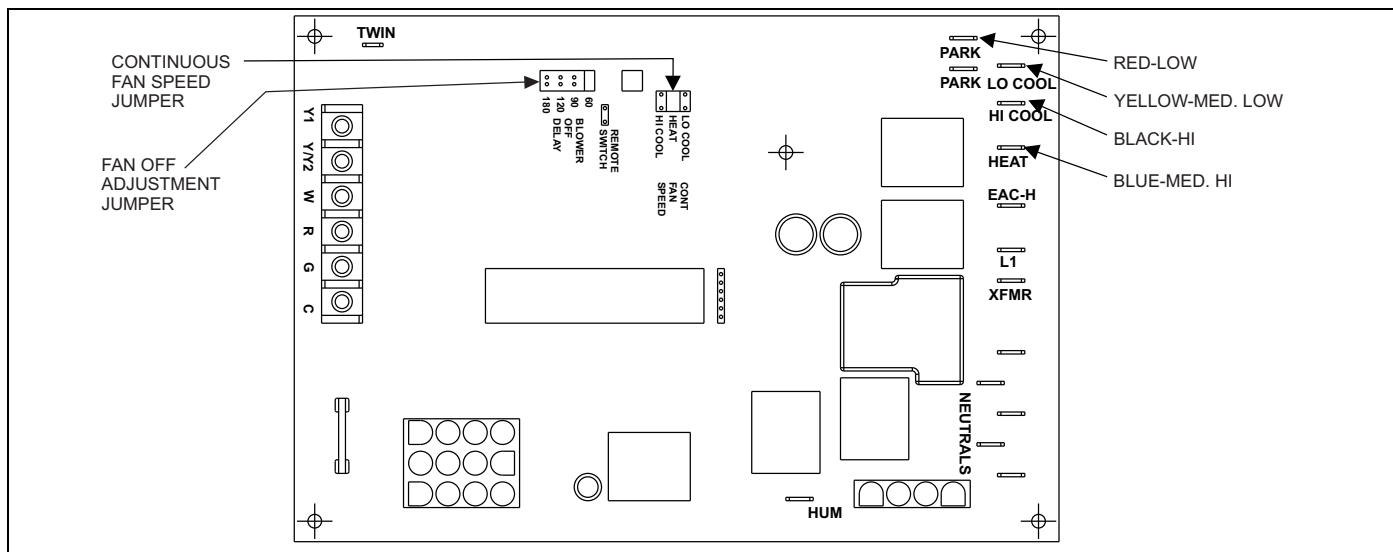
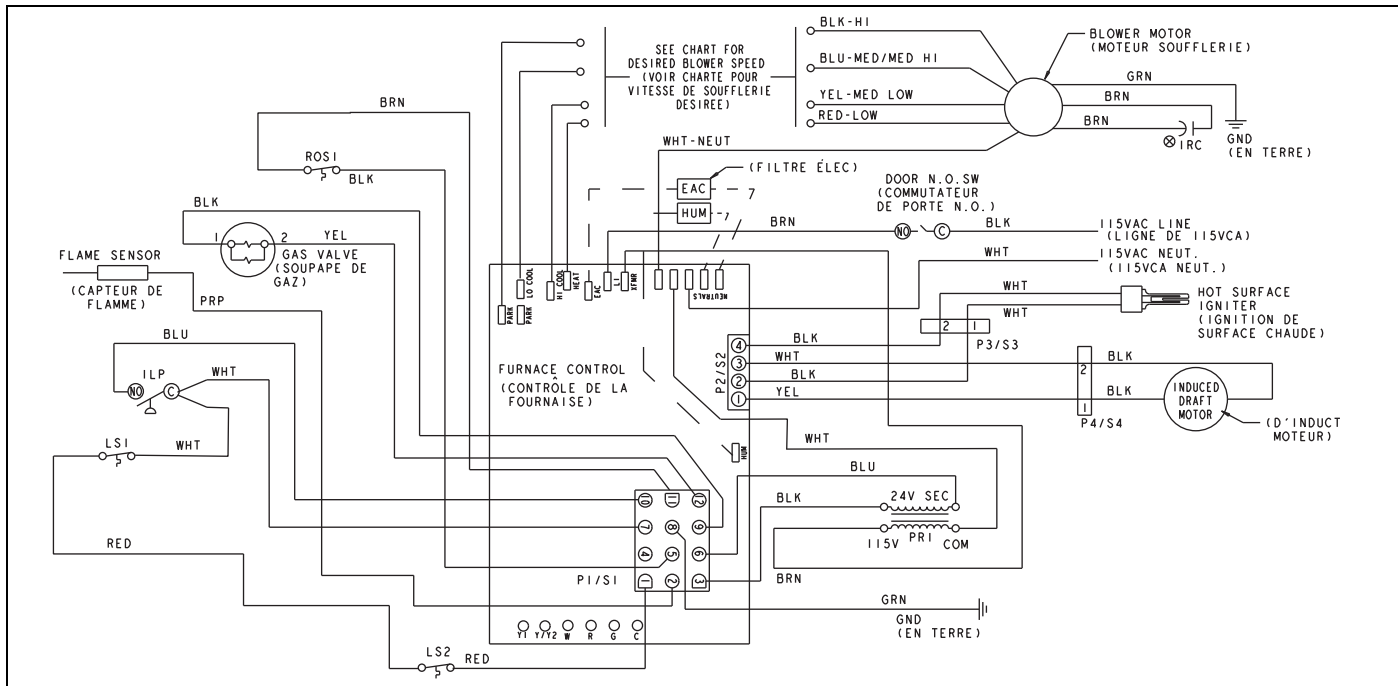

FIGURE 1: Furnace Control Board
FIGURE 2: Board Layout - Typical System Wiring
Figure 1 shows the basic board layout and Figure 2 shows the general component and safety circuit connections (Refer to the electrical wire diagram for the furnace being serviced for circuit connections specific to that model).
3. Figure 2 shows a typical system wiring diagram, which may vary slightly depending on the furnace model. Use the wiring diagram label on the furnace as your primary guide.